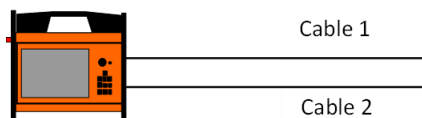

Figure 109 Two cables connected for cable isolation test
1. Electrode cables to be tested should be connected to “Connector 1” or “Connector 2” on the end panel of the instrument. One or two electrode cables can be tested at the same time. If two cables are to be tested (Figure 109), then one cable should be connected to each of the connectors (1 and 2).